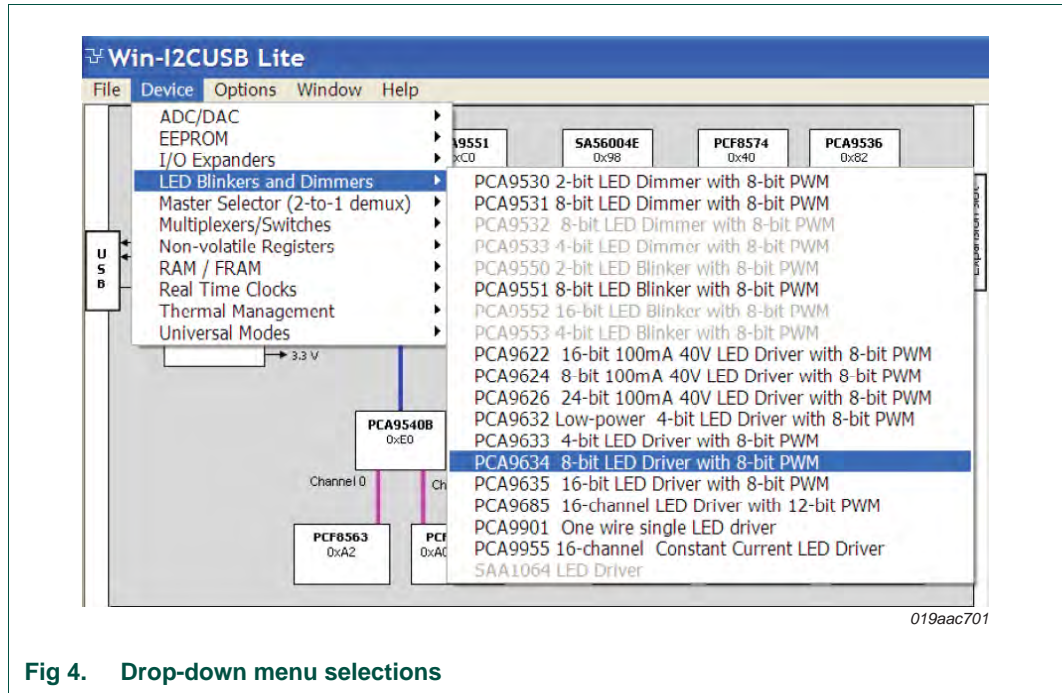

Fig 4. Drop-down menu selections
4. From the 'Device' drop-down menus select 'LED Blinkers and Dimmers', and from the subsequent drop-down menu select 'PCA9634 8-bit LED driver with 8-bit PWM' as in Figure 4.